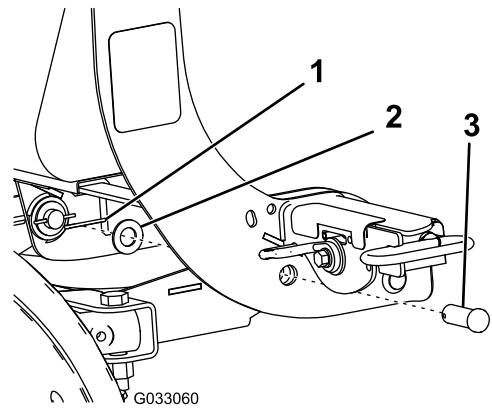

Figure 6
7. Align the pivot holes of the coupler tower with the pivot holes on the push-frame assembly, and secure them with 2 pivot pins, 2 flat washers (3/4 inch), and 2 cotter pins (Figure 6).